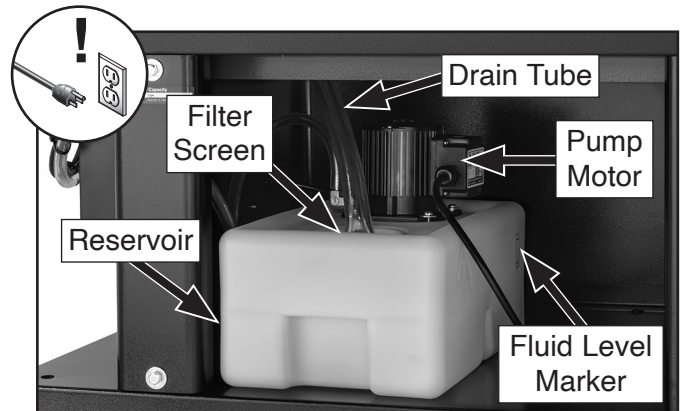

Figure 65. Cutting fluid system components.
2. Thoroughly clean and remove any foreign material that may have fallen inside reservoir (see **Figure 65**) during shipping.
3. Place drain tube in reservoir filter screen (see **Figure 65**).
4. Fill reservoir with cutting fluid to "High" mark on fluid level marker (see **Figure 65**).